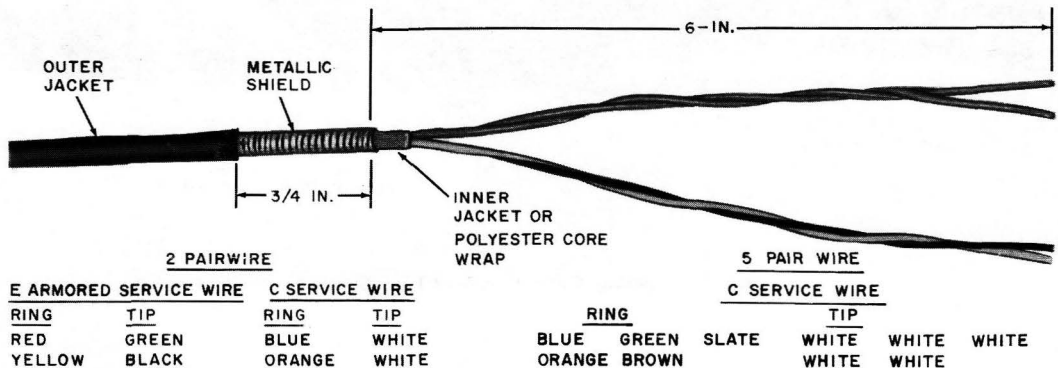

Fig. 3—¶Prepared Service Wire—13- or 14-Type Closure¶
3.01 Prepare service wire as shown in Fig. 3.